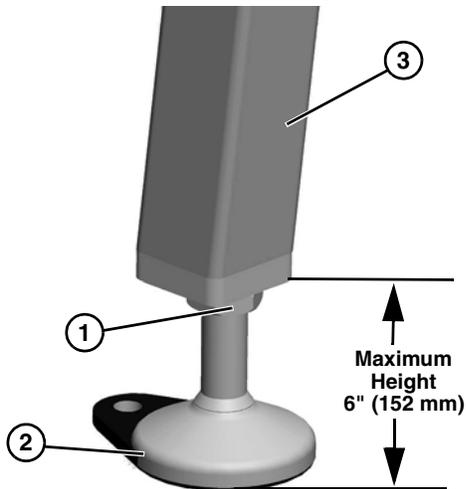
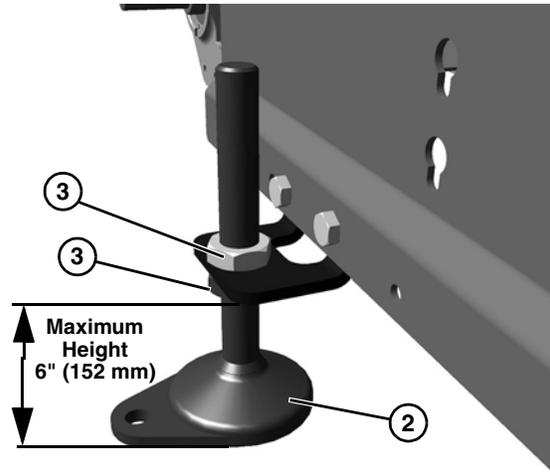

Figure 16
Figure 17
- For a tall stand, loosen the nut (Figure 16, item 1) on the foot stem (Figure 16, item 2). Rotate foot stem to raise or lower the stand (Figure 16, item 3) to desired height.
- For a short stand, loosen the upper nut (Figure 17, item 1) on the foot stem (Figure 17, item 2). Rotate the lower nut (Figure 17, item 3) up or down to raise or lower the stand to the desired height.
4. Tighten the upper nut (Figure 17, item 3) or (Figure 16, item 1) on the foot stem to secure each foot assembly.